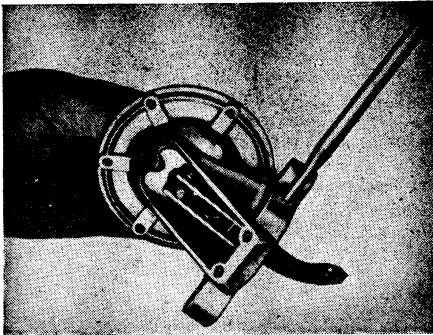

Fig. 10 Series B. Use of assembly pin
5. Insert the small end of assembly pin, Fig. 10, through the body, link and rocker arm. Push assembly pin through so that large end is retaining link and arm in position.